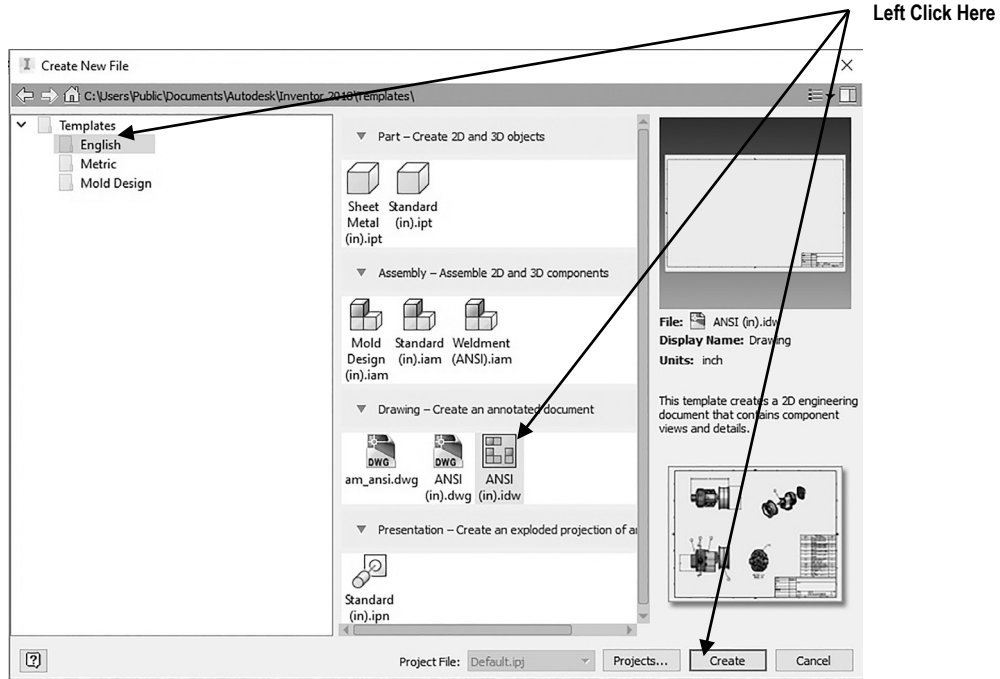

Figure 10
- The Create New File dialog box will appear. Left click on the **English** folder. Left click on the **ANSI (in).idw**. Left click on **Create** as shown in Figure 10.